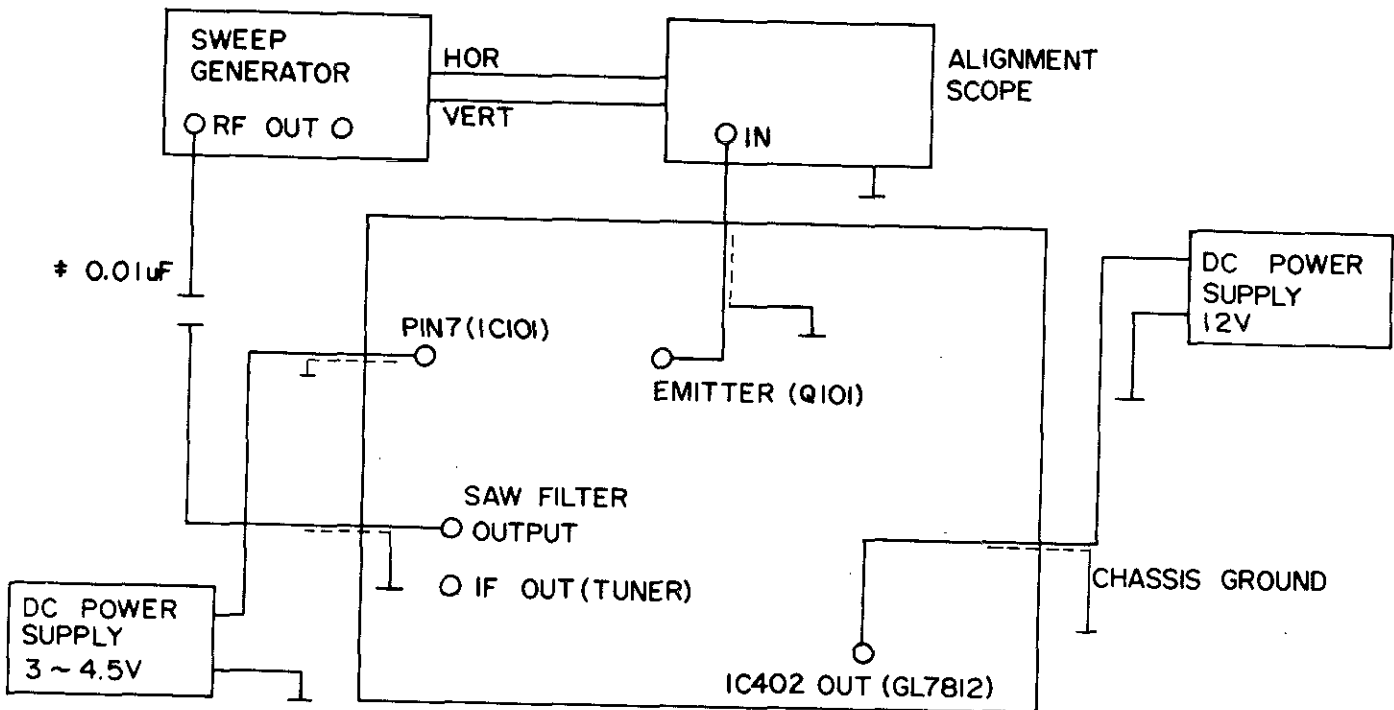

Figure 1
\* Connect Ceramic Capacitor (0.01uF) between RF-OUT terminal of the Sweep Generator and Out terminal of Saw Filter as shown in figure 1.
- Connect the equipment to the main board as shown in figure 1, and then turn the DC power supplier on.
- 2) Do connecting Block Diagram of Equipments as shown in figure 1, but connect RF-OUT terminal of the sweep Generator to IF-OUTPUT terminal of the TUNER on the Main PCB.